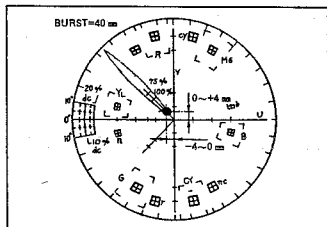

Fig. II-59
- (1) Shoot white chart with halogen lamp lighted.
- (2) Shift bright dot in direction of B-Y +. (VR2654)
- (3) Turn VR2654 reversely to above direction until bright dot comes to the position in Fig. II-59.